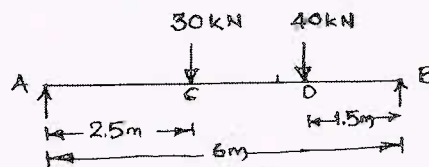

Fig.Q.4(b)
- 4 a. Determine the slope at left support and deflection at mid span of simply supported beam subjected to the loads as shown in Fig.Q.4(a) by using Maculay's method take  $EI = 200\text{MN}\cdot\text{m}^2$ . (10 Marks)
b. Determine the slope at A and deflection at mid span for the above beam shown in Fig.Q.4(b) by using moment area method  $EI = 200\text{MN}\cdot\text{m}^2$ . (10 Marks)